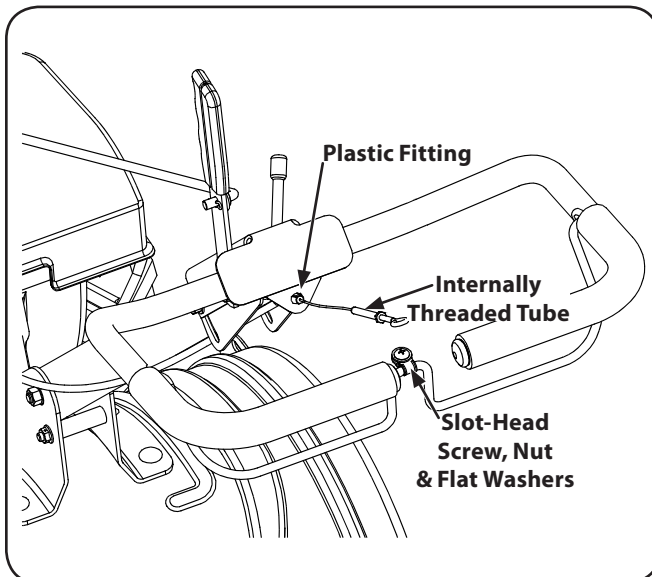

Figure 3-3
3. Push the cable through the hole in the center of the handle and snap into the plastic fitting. See Fig. 3-3.